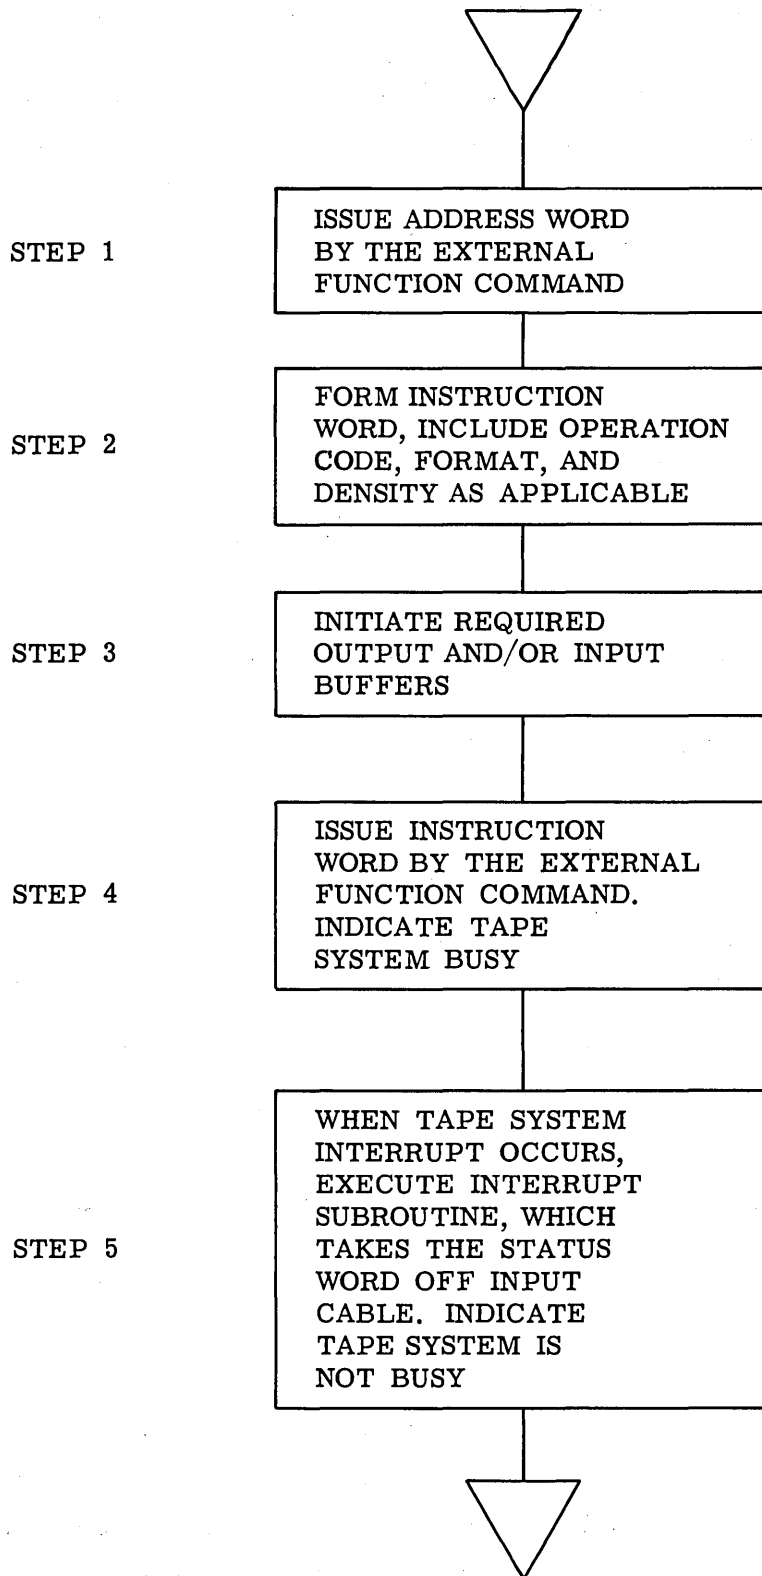

Figure 10. Sequence of Programming References - Magnetic Tape System
The Magnetic Tape System is manually placed in an operational condition. The operator functions include mounting tapes on transports, turning power on, and initially positioning tapes. With the Magnetic Tape System operational, programed reference may begin. Generally, all programing of the tape system must be done with force and must conform to a standard sequence of reference. (Figure 10 illustrates this sequence.)
Step 1 of Figure 10 is required only on the initial reference of a tape transport or when a reference to another transport is desired.
To write, the instruction word must include complete format selection (modulus, character, and parity), and density. Use of the procedure outlined in Figure 10 will result in a record of words being written on tape. Length of record is determined when the output buffer is initiated.
To read, the instruction word must include complete format selection, Identification Code (if read selective) and density. Use of the procedure outlined in Figure 10 will result in a record being read from tape. The length of the input buffer must be long enough to cover the record to be read.